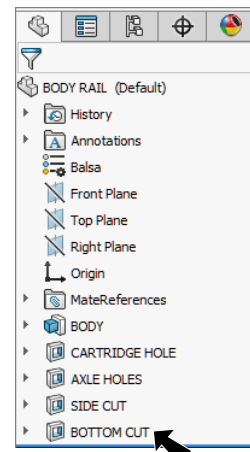

Fig. 23
Step 2. **Rename Cut-Extrude1 to BOTTOM CUT** in the Feature Manager, **Fig. 23.** To rename, click **Cut-Extrude1** name in Feature Manager and press F2 on keyboard. Key-in **BOTTOM CUT.**